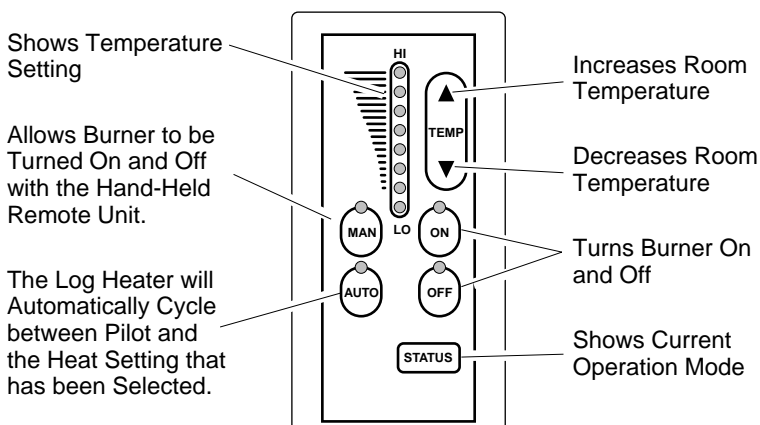

Figure 37 - Thermostat Hand-Held Remote Control Unit Selections (GHRCT only)
- 2b. Select the MAN (manual) or AUTO button on the hand-held remote control unit (see Figure 37, page 20).